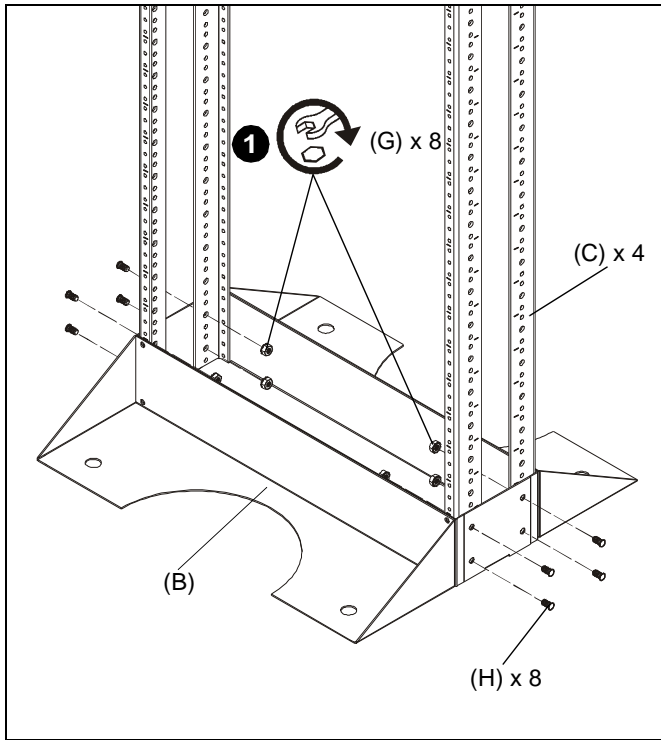

Figure 1
1. Use eight press-in studs (H) and 1/4-20" lock nuts (G) to secure four rack rails (C) to rack base (B). (See Figure 1)